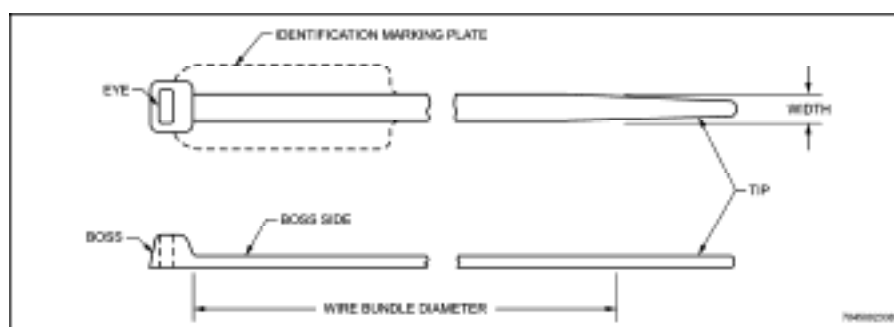

Figure 8-5 Strap Configuration
21. These are adjustable, lightweight, flat plastic straps used for tying and supporting cable assemblies and wire bundles. The strap configuration is shown in Fig 8-5. The straps are of two types:
- a.** MS3367 cable securing strap shown by the bold lines in Fig 8-5 and;
- b.** MS3368 identification and securing strap illustrated by the broken lines in Fig 8-5. These straps are available either in black or natural colour.